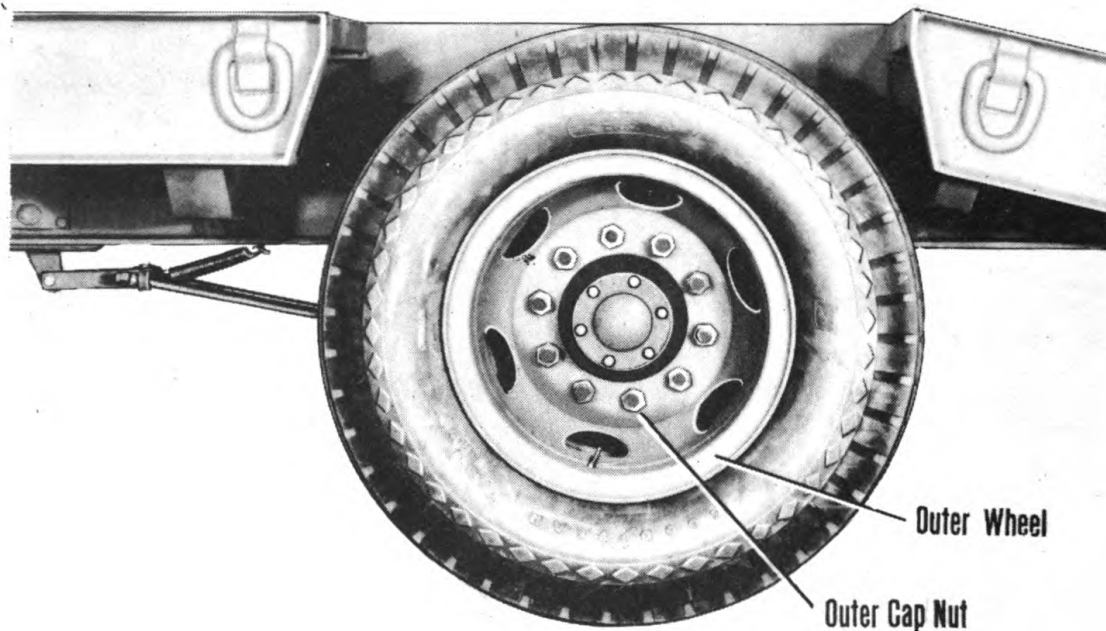

Figure 21—Rear Axle, with Outer Wheel in Place
5. Remove the ten nuts that hold the outer wheel to hub studs (figure 21); slip off the wheel with the tire.